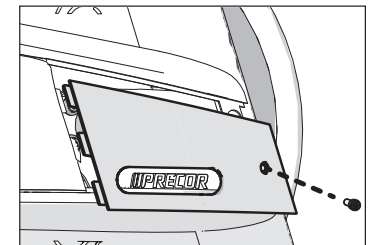

Figure 2
1. Loosen the bolt and remove the cover window (Figure 2).